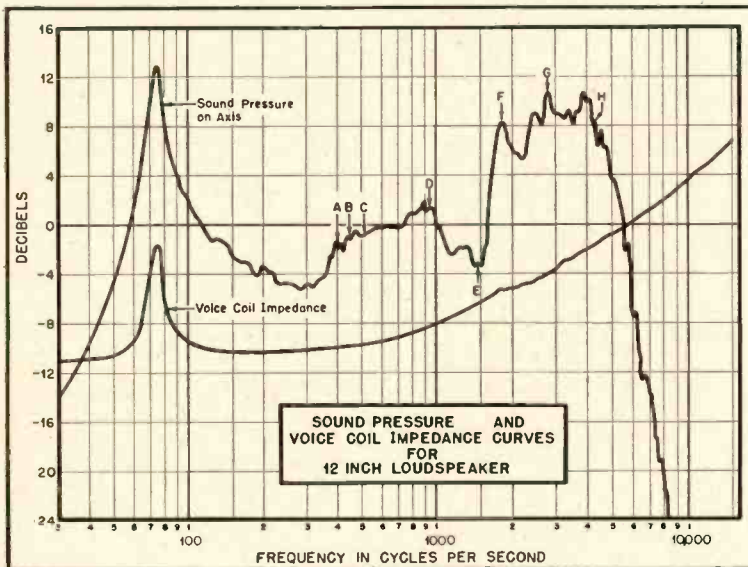

Fig. 8. Sound-pressure and voice-coil impedance curves for a 12-inch loudspeaker.
The sound pressure curve of a standard 12-inch speaker is shown by Fig. 8. The low-frequency resonance occurs at 75 cps, the usual rim resonance occurs in the region between 1200 and 1500 cps, and there is peaking of about 8 db in the upper register. The upper frequencies cut off rather rapidly beyond 6000 cps. The voice coil impedance shows the main resonance at 75 cps. The higher
Figure 9(A) corresponds to point A of Fig. 8 and was made by sprinkling lycopodium powder on the cone. The frequency was then set near the low-frequency resonance of the cone, which caused the powder to climb up the cone and distribute itself uniformly. The frequency was then raised to 400 cps and left there. The light yellow powder was shaken off of the moving parts of the
When the frequency is raised to 450 cps, there are eight radial nodes, symmetrically spaced as shown by Fig. 10(A). This corresponds to point B of Fig. 8. There is little effect on the sound pressure curve because the antinodes merely pump air across the nodes.
Fig. 11(A), corresponding to point C of Fig. 8, is somewhat unsymmetrical and apparently is a mixture of two normal modes. The one wide node apparently is moving slightly in the center. The corresponding transient response is shown by Fig. 11(B). The 75-cps oscillation is superimposed as before, and there is considerable beating between transients just after cutoff.